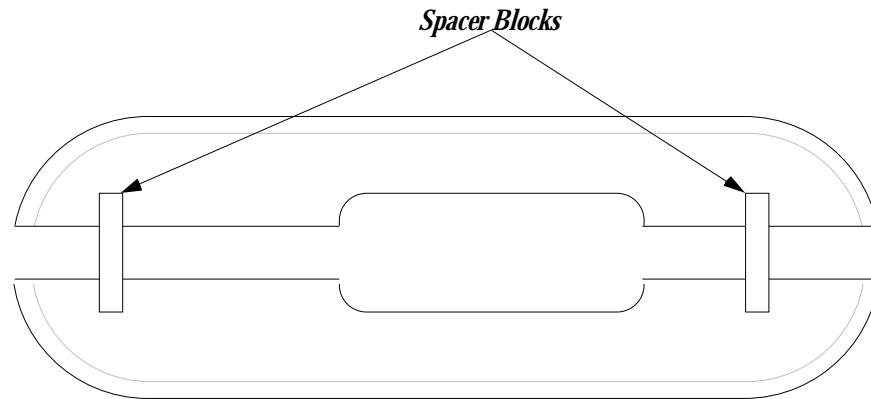

Figure 9
1. Clamp the four body panels together with the spacer blocks (painted surfaces inside, curves matched). (see Figure 9)